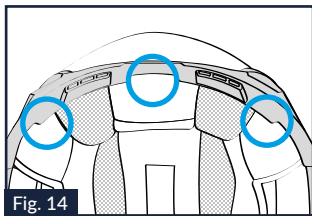

Fig. 14
9.3. Correctly turn up the shell sealing edge and press downwards in line with the three front flaps (left, central and right) until they are fully fastened to the support. Make sure that the front helmet area is as shown in Fig. 14.